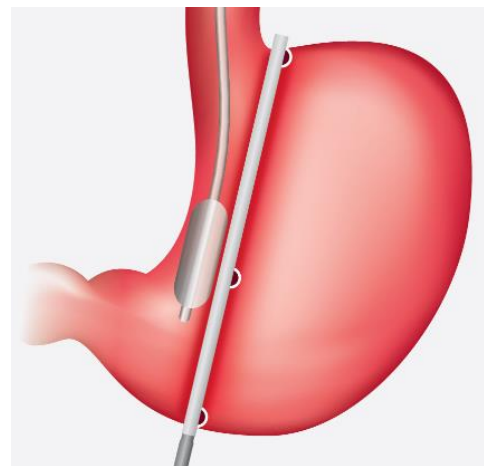

Figure 1. Standard Clamp® placed lateral to Standard Bougie™
Step 7 – Place the Standard Clamp® lateral to the Standard Bougie™, reference Figure 1. The Standard Clamp® 1 cm width acts as a spacer, which once placed, does not allow the Standard Bougie™ to migrate into the path of the stapler. Use of the 18Fr Standard Bougie™ with the Standard Clamp® results in a 40Fr sleeve diameter. Once the Standard Clamp® is placed, ensure the Standard Bougie™ is freely mobile within the stomach.